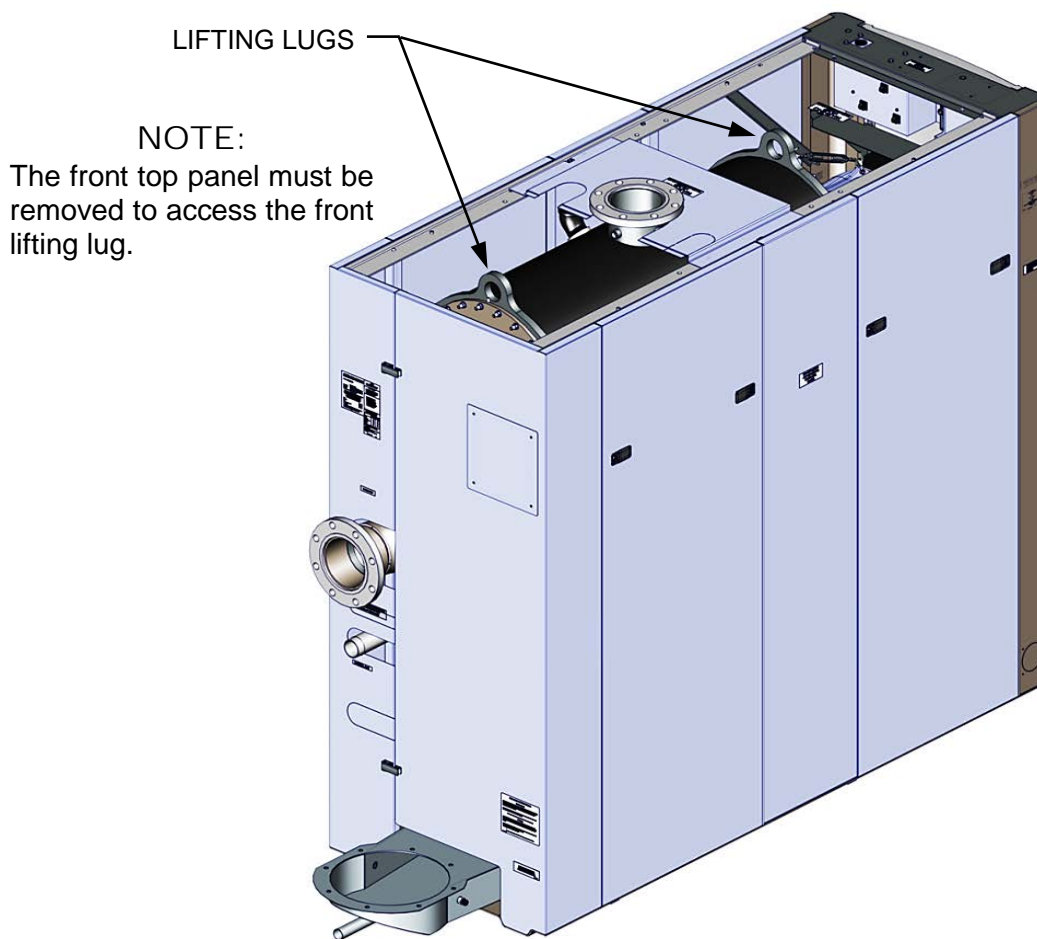

Figure 2-3: Lifting Lug Locations
Two (2) lifting lugs are provided at the top of the primary heat exchanger as shown in Figure 2-3. The location of the lifting tabs is marked on the shrink-wrap coving the unit for shipping.